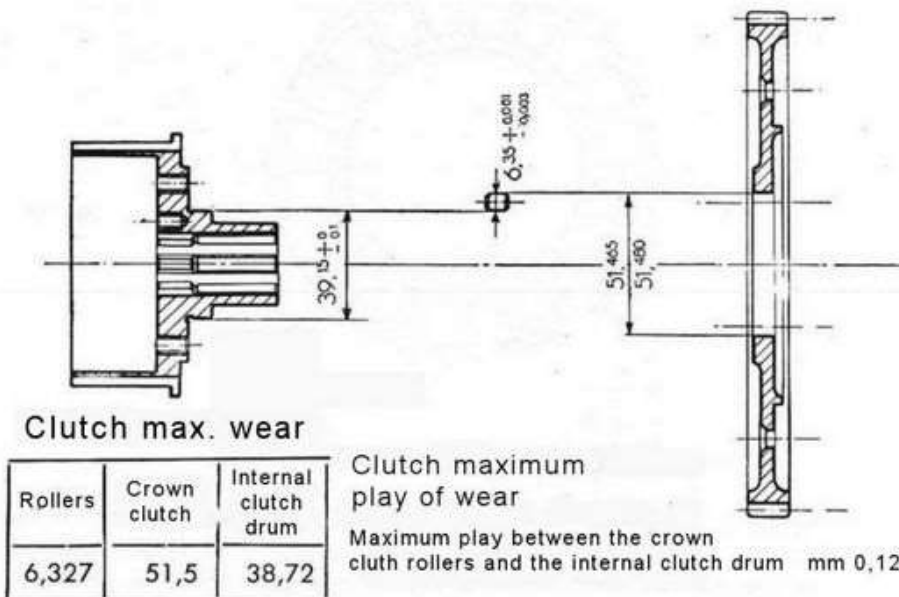

Fig. 21
c) check the load of the pressure springs which must be within the limits established in fig. 20; d) checking the rolling surfaces of the relative track rollers on the above mentioned surfaces are indicated in the table (Fig. 21); e) check that the ends of the control rod, the pusher tips, the balls and the relative bushing, are not worn out.